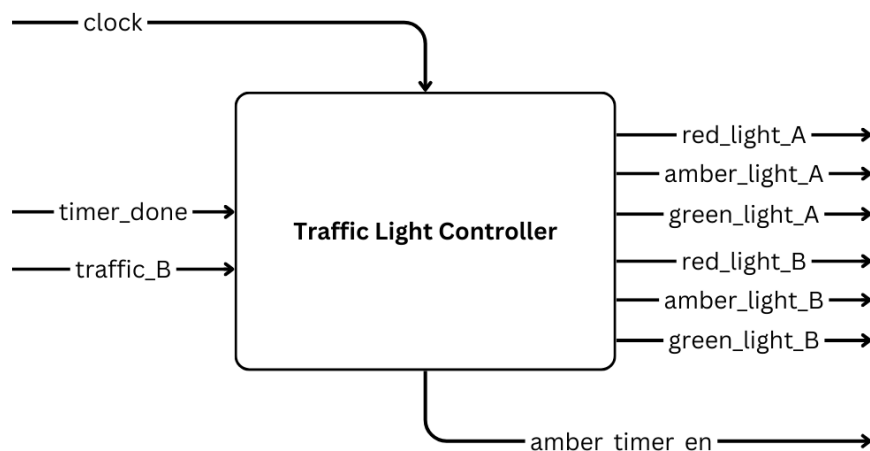

Figure 2: Traffic Light Module I/O
1. State with reason which type of FSM (Moore or Mealy machine) is more suitable for the traffic light controller module (Fig. 2) in the description. (**Hint:** if the external timer will count k amount of time after **amber_timer_en** is high, we have to make sure that the system is in the amber state for exactly k time. Hence the timing of when the **amber_timer_en** signal becomes high is important.)
The Figure 2 shows the I/O of the traffic light controller module for this scenario. The Table 1 gives the description of each I/O signal.